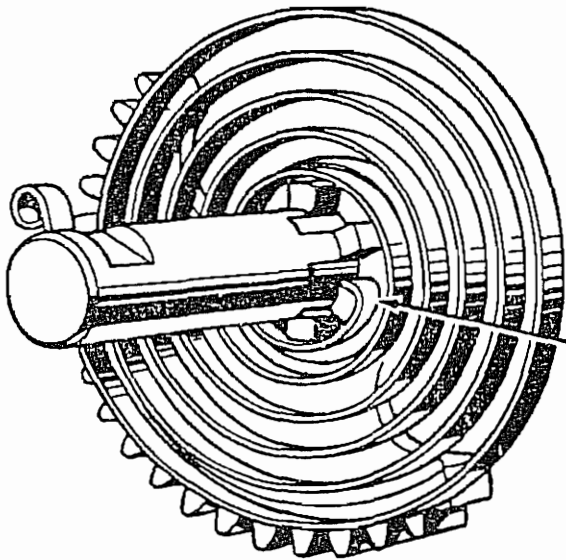

Fig. 25.
**Kickstart Assembly.** Remove the kickstarter crank cotter pin and slide the pedal off the shaft. Withdraw the quadrant and spring assembly from the bush. Check the quadrant for chipped teeth and spindle wear, and the spring for fatigue cracks especially at the centre. Change if necessary. Replace the assembly in exactly the opposite way, making sure that the centre of the spring re-engages with the same spline on the quadrant spindle shaft (See Fig. 25).